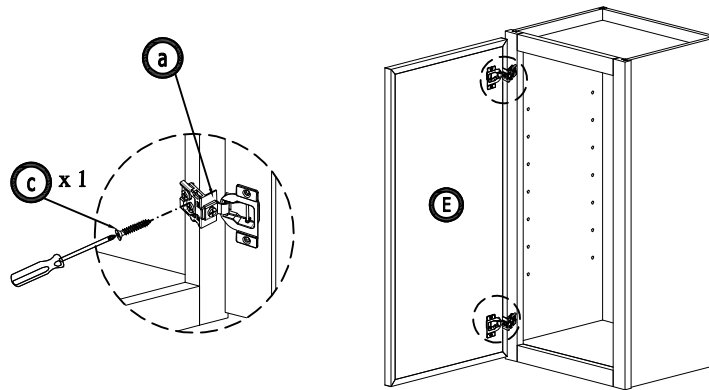

Figure 7
7. Assemble door with hinges to left or right of cabinet frame by 2 screw 4/5" (Figure 7)